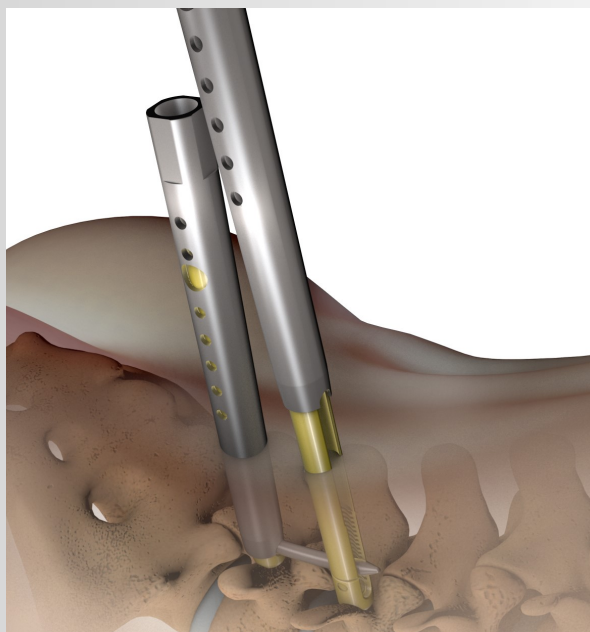

Figure 24
- A. Insert the **Support Tower** and assure it is fully seated. This can be verified when the extended tab ends are seen in the biggest hole of the Support Tower (Figure 24).